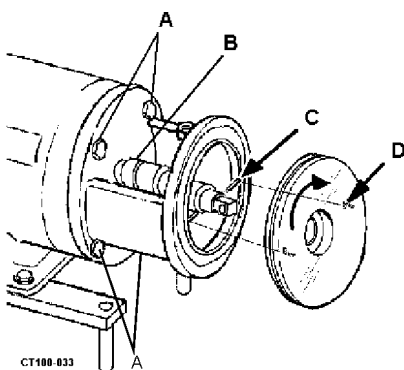

Figure 22 - Adapter Installation
1. Install the adapter to the motor, with the drain cavity at the bottom. Insert the four bolts to secure the adapter to the motor. Tighten the bolts. (See Figure 22, item A.)
3. Place the stub-shaft assembly onto the motor shaft. (See Figure 22, item B.) **Do not tighten the shaft setscrews.**
4. Install the backplate on the adapter and rotate it until the backplate pins engage the adapter pins (see Figure 22, items D and C), ensuring solid contact of the backplate to the adapter.